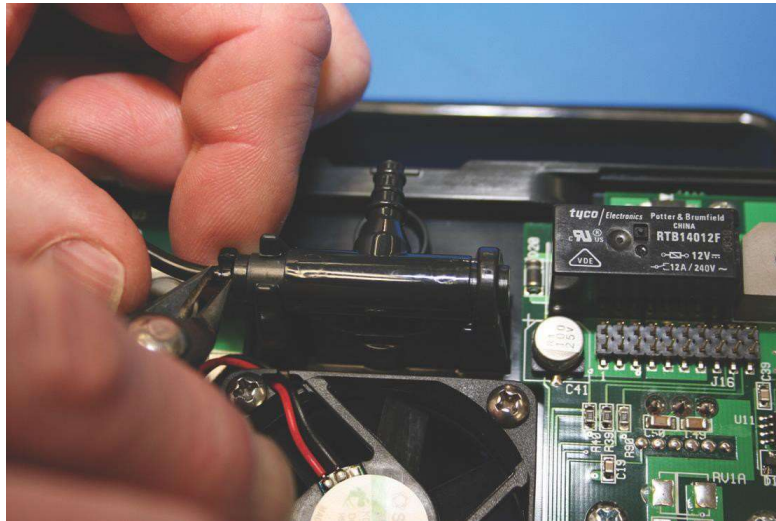

Figure 5.32
10. Remove cannula nozzle tubing by cutting tie-wrap (use small-size cutter). Carefully pull tubing from nozzle barb. (Figure 5.32)